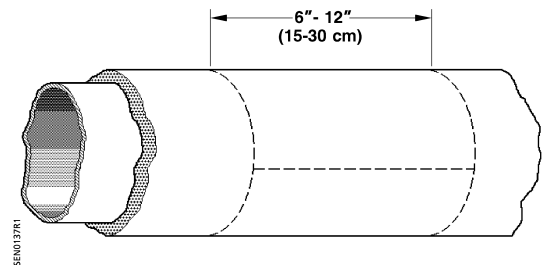

Figure 1. Cutting the Insulation.
2. Make a third cut perpendicular to the first two cuts so that the insulation can be removed in one piece. See Figure 1. **Save this piece.**